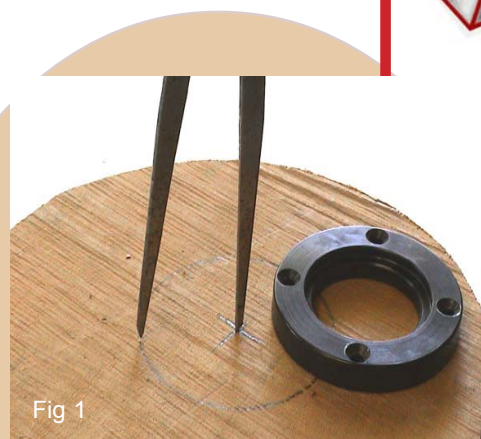

Fig 1
- b. Draw a compass circle first around centre of bowl blank (see Fig 1) and then use this as a guide, or